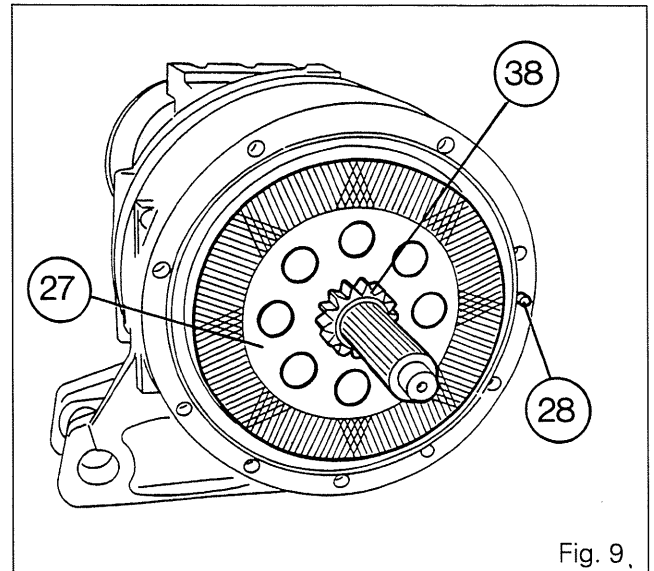
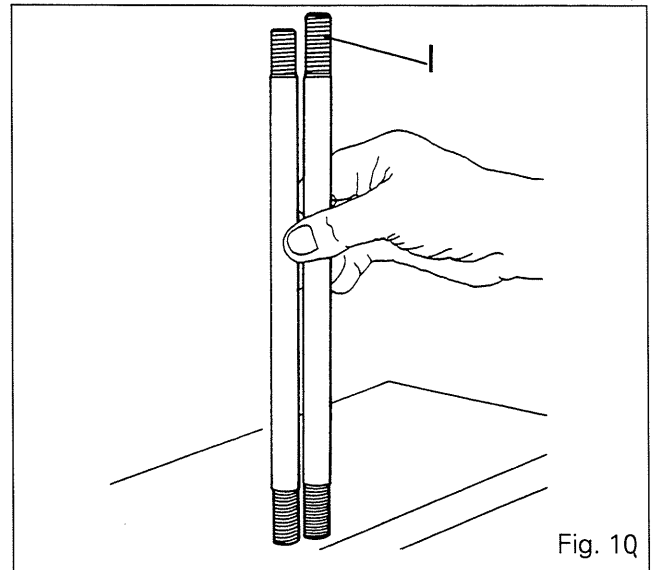
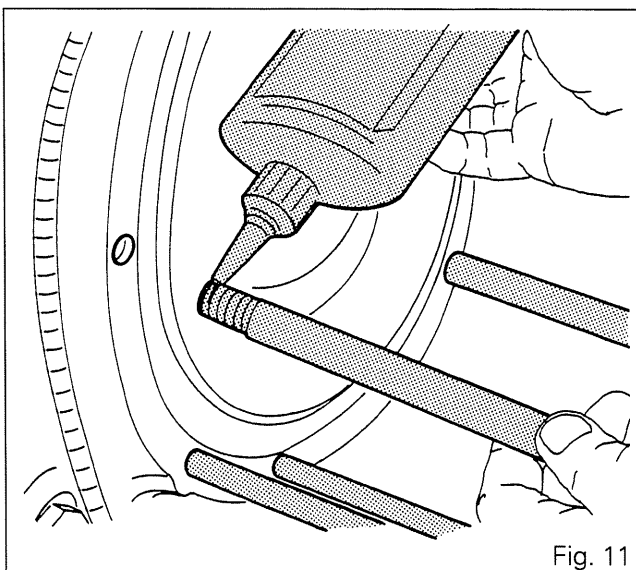

Fig. 9.
Fig. 10
Fig. 11
18. Refit the disc (27) on the hub (38). Replace the dowel (28) (Fig. 9).
19. Check the tightening of studs (29).
**Note : If one or many studs need to be replaced, take care of the length of their fixing threads. The fixing thread «l» of the lower studs is longer than the one of the upper studs (Fig. 10). Before fitting on the housing, clean them and lightly smear with Loctite 270 (Fig. 11).**
**Note : Turn the axle shaft (2) to align the splines of sun gear (25) with the splines of the differential.**
21. Fit the washers (30) and the nuts (31). Tighten to a torque of 220 - 300 Nm.